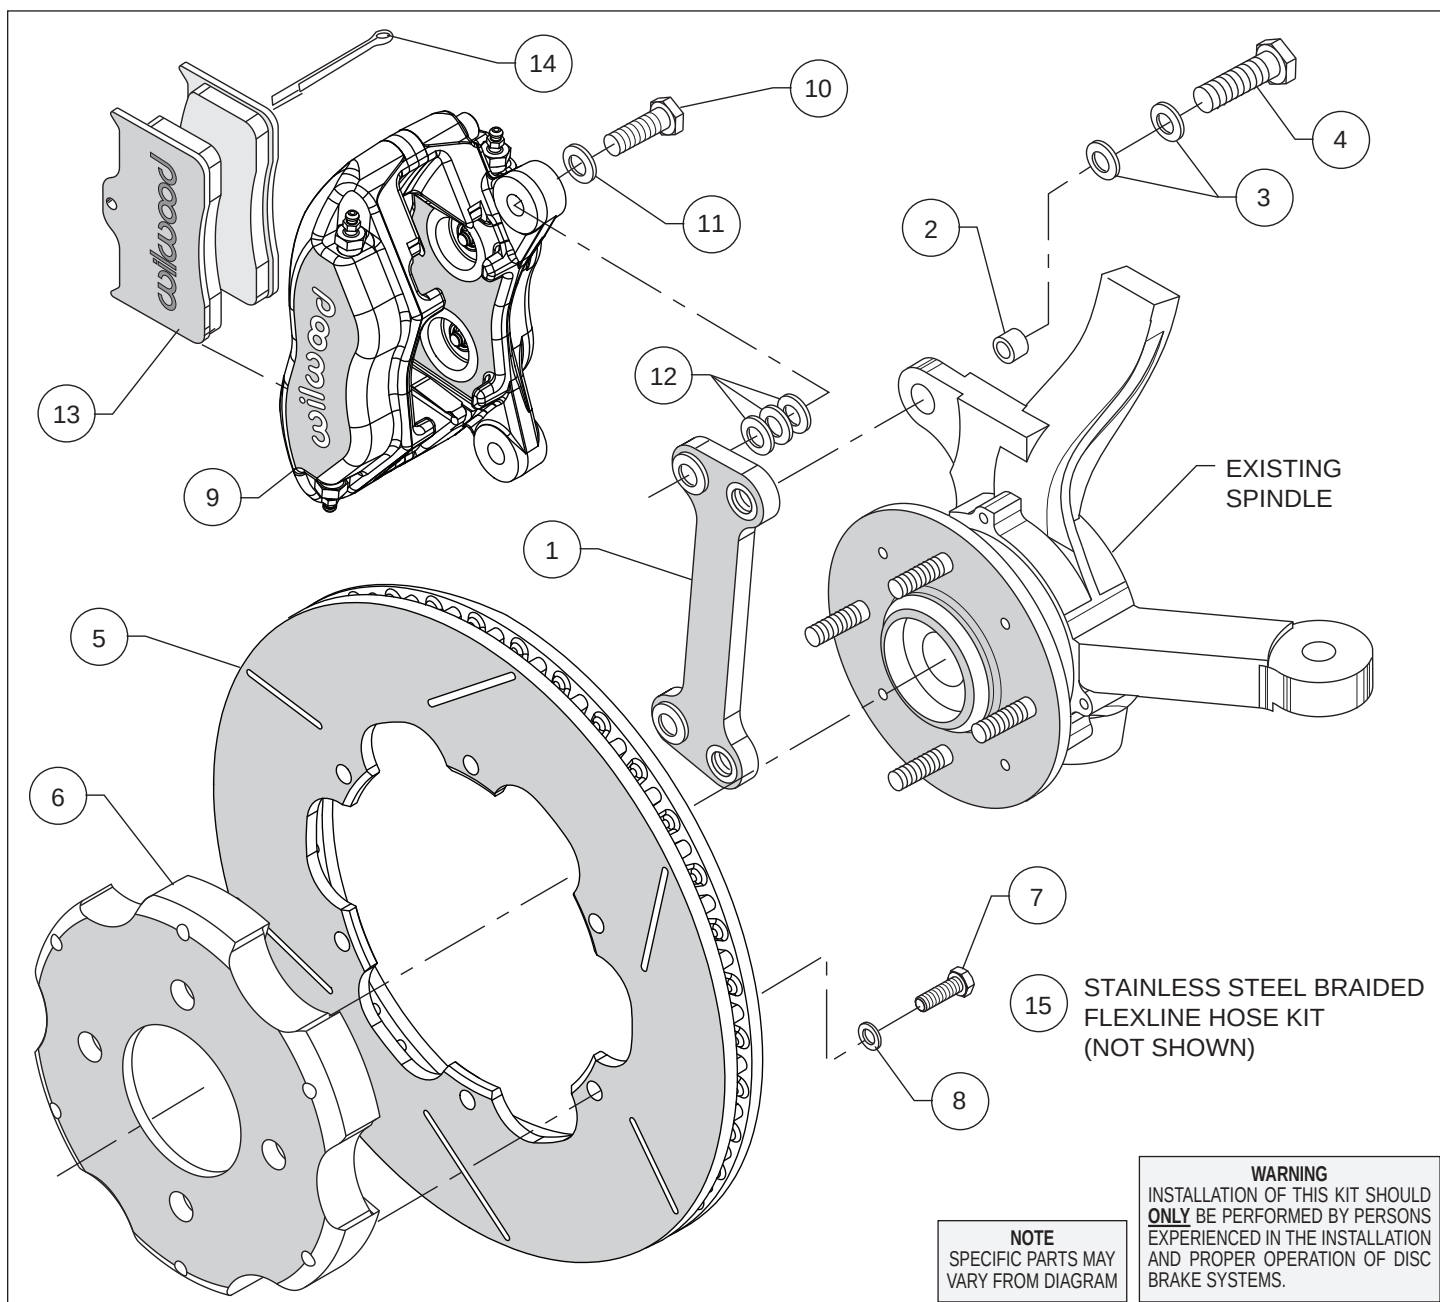
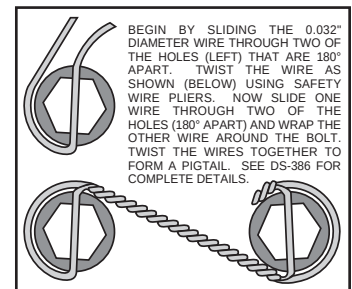
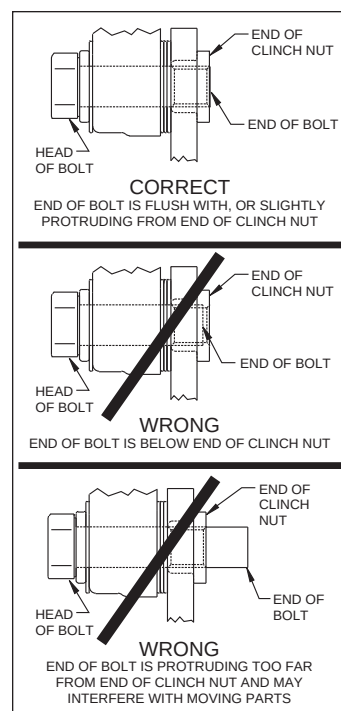

Figure 1. Typical Installation Configuration, Left Hand Application Shown
Figure 4. Safety Wire Diagram
Figure 5. Clinch Nut Engagement Diagram
Assembly Instructions (numbers in parenthesis refer to the parts list and Figure 1 on the preceding pages): **CAUTION:** All mounting bolts must fully engage clinch nuts. Be sure to check that all bolts are either flush or protruding through flanged side of clinch nut after shimming, Figure 5.
- Insert sleeves (2) into each of the two bracket mounting holes on the spindle "ears", Figure 1. Orient the caliper mount bracket (1) as shown in Figure 1, and install using bolts (4) and two washers (3). Ensure that the flanged heads of the clinch nuts in the bracket are facing outboard. Temporarily tighten the mounting bolts. **NOTE:** The bracket must fit squarely against the mount bosses on the upright. Inspect for interference from casting irregularities, machining ridges, burrs, etc. Remove bolts one at a time, apply red *Loctite*® 271 to the threads and torque to 40 ft-lb.
- Orient the rotor (5) and the hat (6) as shown in Figure 1 and Photo 1. Attach rotor to hat using bolts (7) and washers (8). Using an alternating sequence, apply red *Loctite*® 271 to the threads, and torque to 25 ft-lbs. Safety wire bolts using standard 0.032 inch diameter stainless steel safety wire as shown in Figure 4. Please refer to Wilwood's data sheet DS-386 (available at www.wilwood.com/Pdf/DataSheets/ds386.pdf) for complete safety wire installation instructions.
- **NOTE:** Please reference the caution statement at the beginning of the assembly instructions. Mount the caliper (9) onto the caliper mounting bracket (1) using bolts (10) and washers (11), as shown in Figure 1. Initially place three .035" thick shims (12) on each bolt between the caliper and the bracket, Photo 2. Temporarily tighten the mounting bolts and view the rotor (5) through the top opening of the caliper. The rotor should be centered in the caliper, Photo 3. If not, adjust by adding or subtracting shims between the bracket and the caliper. Always use the same amount of shims on each of the two mounting bolts. **NOTE:** The end of each bolt must be flush with or slightly protruding from the head of the clinch nut, as shown in Figure 5.
If necessary place spare shims (12) between washer (11) and caliper mounting ear to achieve the proper clinch nut engagement. Once the caliper alignment and clinch nut engagement are correct, remove the bolts one at a time, apply red *Loctite*® 271 to bolt threads, and torque to 40 ft-lb. For an added measure of safety, bolts may be safety wired using standard 0.032 inch diameter stainless steel safety wire as shown in Figure 4. Please refer to Wilwood's data sheet DS-386 (available at www.wilwood.com/Pdf/DataSheets/ds386.pdf) for complete safety wire installation instructions.